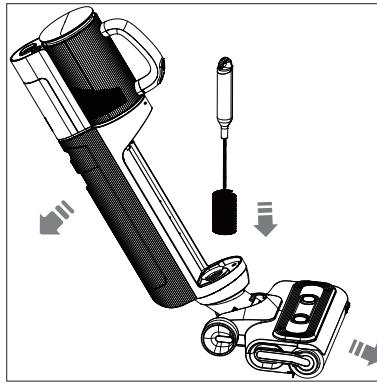

Fig. 20 – Cleaning the lines
- ▶ Clean the dirty water pipe to the cleaning foot using the cleaning brush supplied (**see Fig. 20**).